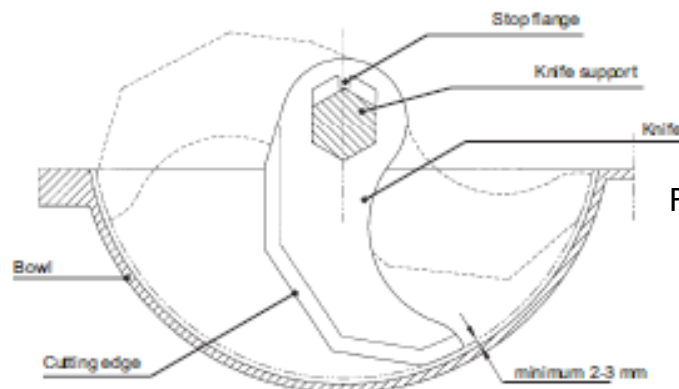

Fig. 3 - Knives Adjustment
- Adjust each knife so that there is a 2-3 mm space between each knife and the bowl (Fig. 3). For this adjustment we recommend using a space gauge made of a pliant material (cardboard, cork, etc.) to follow the path marked by the end of each knife and a plastic mallet to adjust the knives accordingly.
If the quality of the cutting/chopping should noticeably diminish, the knives should be sharpened by a qualified professional, paying special attention to maintaining the length and weight of each of the knives in a given group or head. The knives should only be sharpened by an expert specialized in the sharpening of tempered knives. Before sharpening the knives, consider whether the resulting reduction in size will be substantial enough to warrant the installation of completely new knives. In principle, the external knife-edge should not be reduced more than 1 cm from its original size. Once the knives have been sharpened, before reinstalling them in the machine, a small space should be filed from the stop flange located in the hexagonal area (Fig. 3) to compensate for any possible shortening of the knives. To clean the knife surfaces, use a product with anti-corrosive properties. Always store the knives in their packaging; this will help maintain the cutting edge and it will protect them from any accidental bumps or friction. Always transport the knives in their packaging when possible. To adjust or move the knives always use adequate safety measures and equipment.